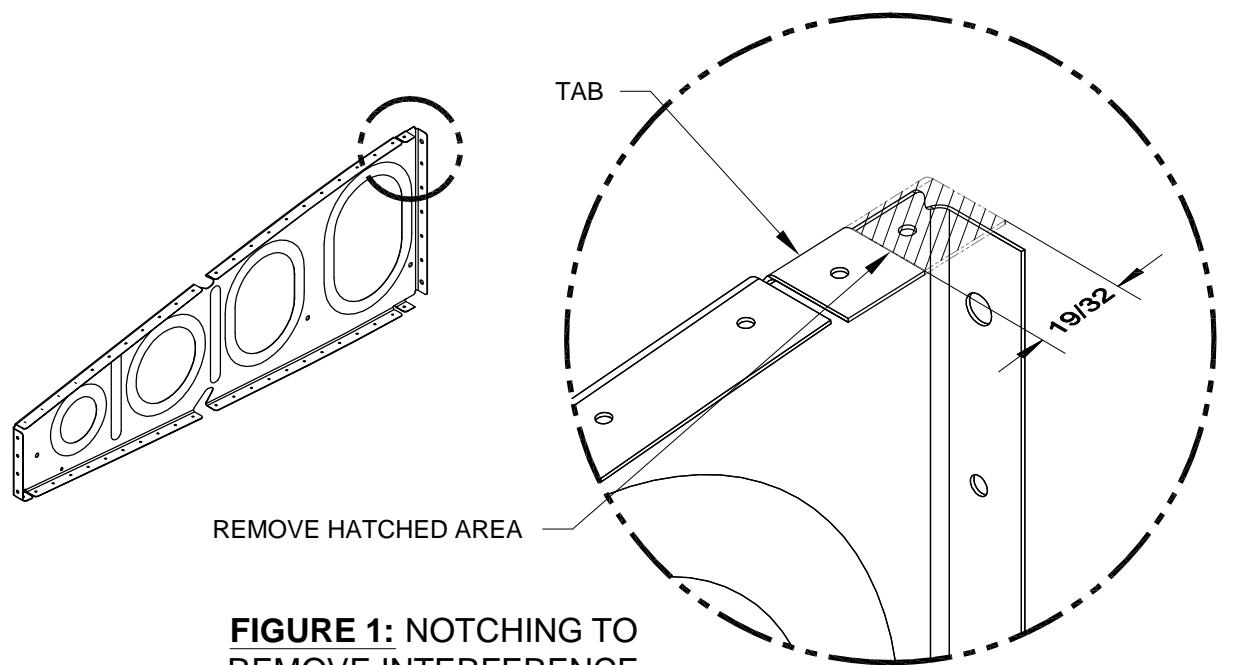

FIGURE 1: NOTCHING TO REMOVE INTERFERENCE
Step 1: Remove the flange and flange radius from the top and bottom tabs of a **single W-1011-R** Inboard Wing Rib as shown in Figure 1. This notch will remove interference between the outboard-most tank attach nutplate and the **W-1011-L/R** Inboard Wing Rib that attaches to the main spar assembly at that span wise location. The amount of trim is the same on both the top and bottom tab.
Match-Drill to #12 the upper and lower attach points on the **W-1010-R** and all the **W-1011-L/R** Inboard Wing Ribs that will be attached with bolts to the main spar assembly (see Page 14-6, Figure 1), using the holes in the main spar assembly as a drill guide. Use a wood block to support the forward flange of the ribs while drilling.